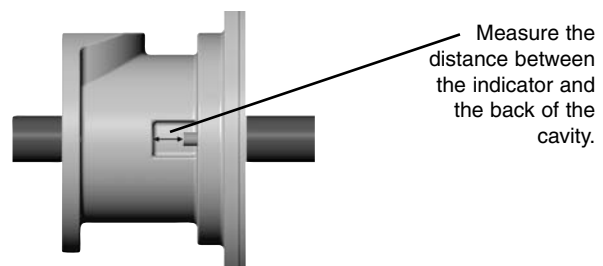

Figure 2. Seal Ring Indicator Measurement
Before installing the joint body (1), an initial measurement needs to be taken from the seal ring indicator as show in Figure 2. This can be done using a snap gauge and calipers. Record this measurement for later use.